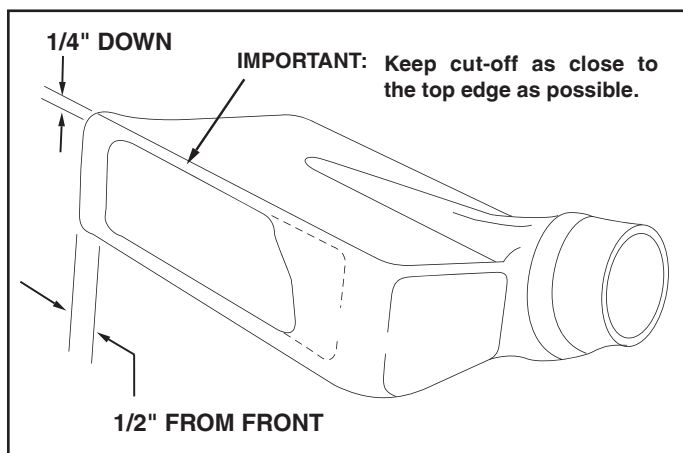

FIGURE 14
4. Tape the template to the face of the adapter, about 1/2" from front and 1/4" down from top for deeper decks. For shallow decks, position template low enough that adapter will not extend below bottom of deck. Mark outline of template on face of adapter using white crayon, nail or scribe. Drill a starting hole inside the outline, then use a saber saw or key hole saw to cut out the opening. See figure 14.